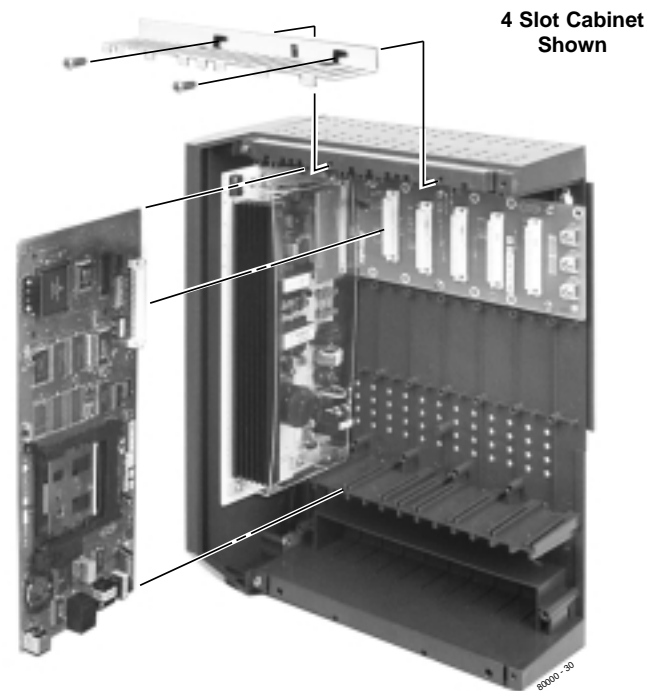

Figure 2-6 INSTALLING THE CPU
3. Plug the CPU into slot CN0 (see Figure 2-6).
### Digital Station (16DSTU) PCB (Figures 2-6 and 2-7)